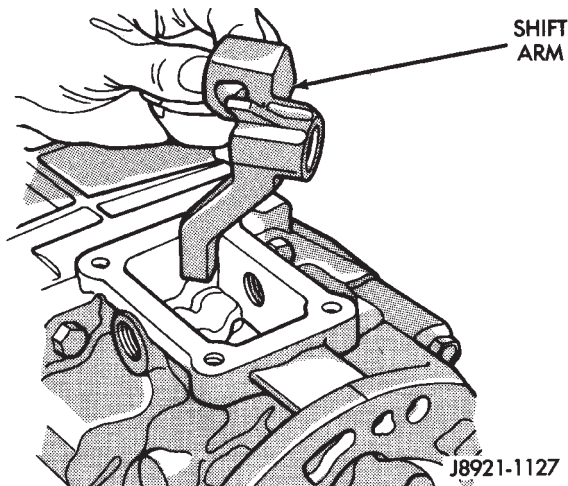
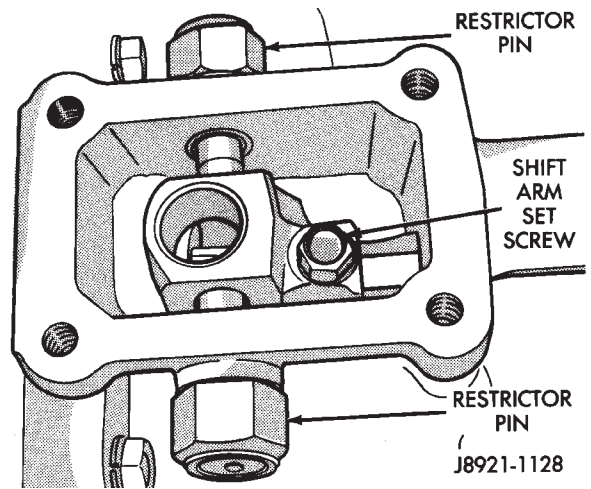

Fig. 124 Shift Arm Installation
Fig. 125 Set Screw And Restrictor Pin Installation
(22) Position shift arm in adapter housing (Fig. 124). Be sure arm is engaged in shift rails.
(23) Align shift arm with shaft and push shaft into arm.
(24) Rotate shift arm shaft until set screw holes in shaft and arm are aligned.
(25) Install and tighten shift arm set screw to 38 N•m (28 ft. lbs.) torque (Fig. 125).
(26) Install and tighten restrictor pins to 19 N•m (14 ft. lbs.) torque (Fig. 125).